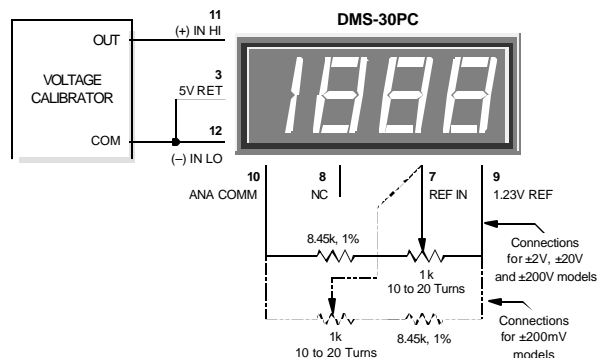

Figure 10. External Gain Adjustment
6. **Gain Adjust:** There is a gain-adjust potentiometer on the back of each meter. It has approximately ± 50 counts ($\pm 2.5\%$) of adjustment range. Since these devices essentially have no zero/offset errors, a gain adjustment is effectively an overall accuracy adjustment. Though they may be performed at any point (except zero), accuracy adjustments are most effective when performed with higher level input signals. The circuit shown in Figure 10 provides $\pm 10\%$ range of adjustment.
- 8. External Gain Adjustment:** Connect REFERENCE OUT (pin 8) to REFERENCE IN (pin 7) for normal, factory calibrated, operation. Use the +1.23V REFERENCE OUT (pin 9) for applications needing external gain adjustment. Figure 10 shows the wiring configuration for each model. Calibration is performed with a precise, near-full-scale, input voltage.